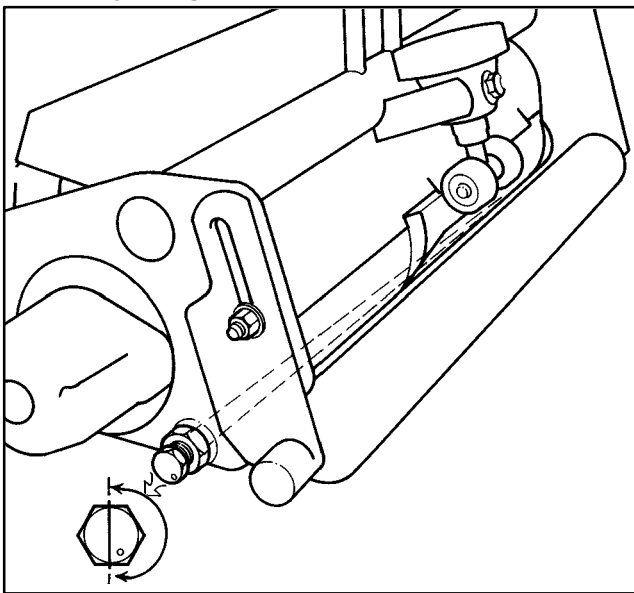

Figure 16
4. Loosen jam nut on left hand bedbar pivot bolt enough to ease in turning bolt. The left hand pivot bolt has an offset thread which, when rotated, acts as a cam to raise or lower the bedbar. On the bolt head there is an identification dot which denotes the offset of the bolt. When the dot is in the up position (Fig. 16) the left end of the bedbar is raised. As the bolt is turned clockwise and dot is lowered, so is the left end of the bedbar. Identification dot is to be positioned within the rear (180°) position when adjusting.